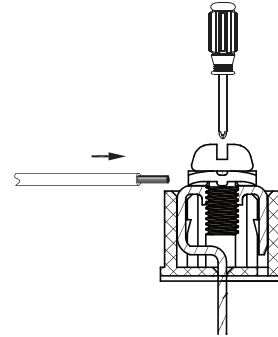

Fig. 20 —Connecting Communication Wire to Outdoor Unit Communication Terminal
3. Use a suitable screwdriver to fix the communication wire on the outdoor unit communication terminal as shown in Fig. 20.